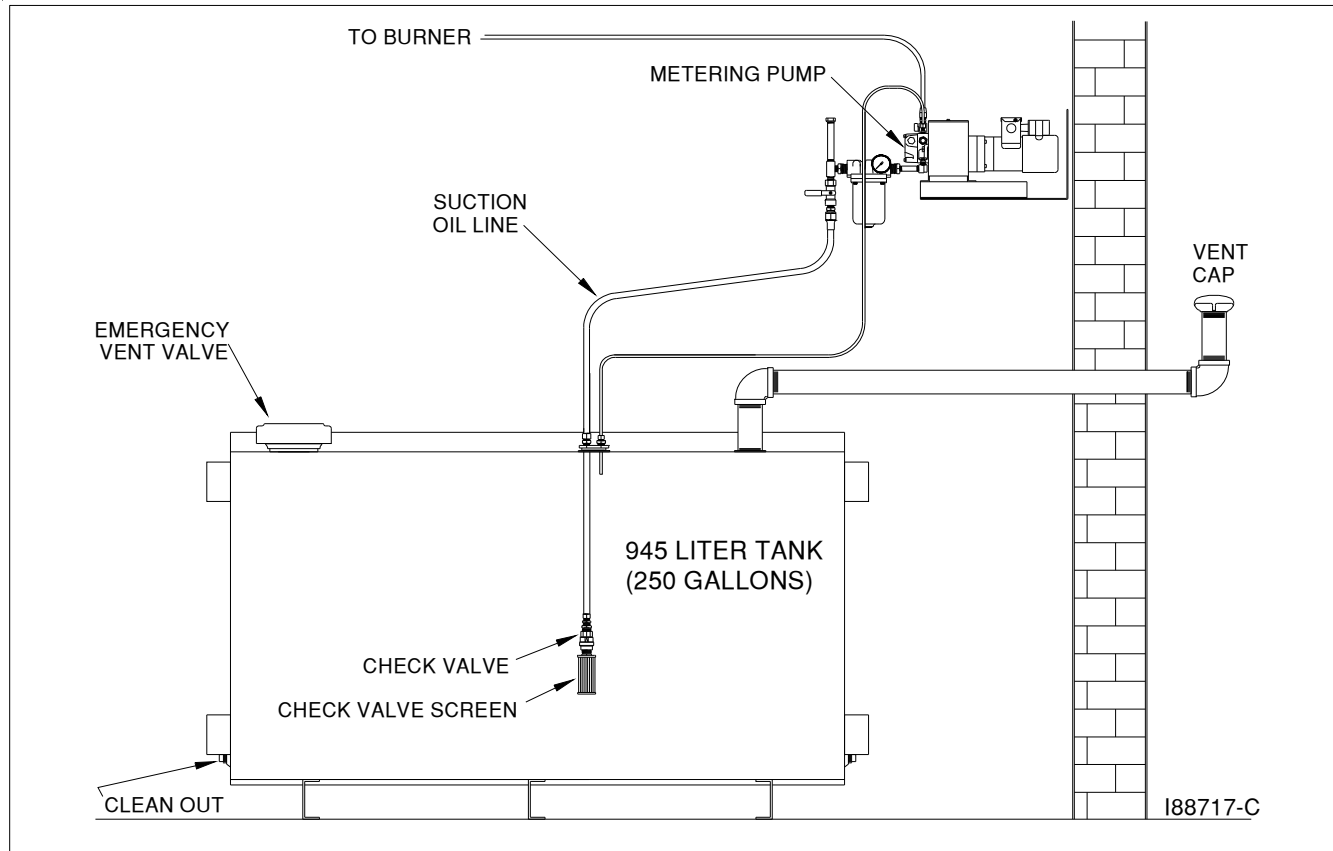

Figure 9E - Check Valve Detail
1. Refer to Figure 9E. Remove the one-piece suction oil line from the tank.